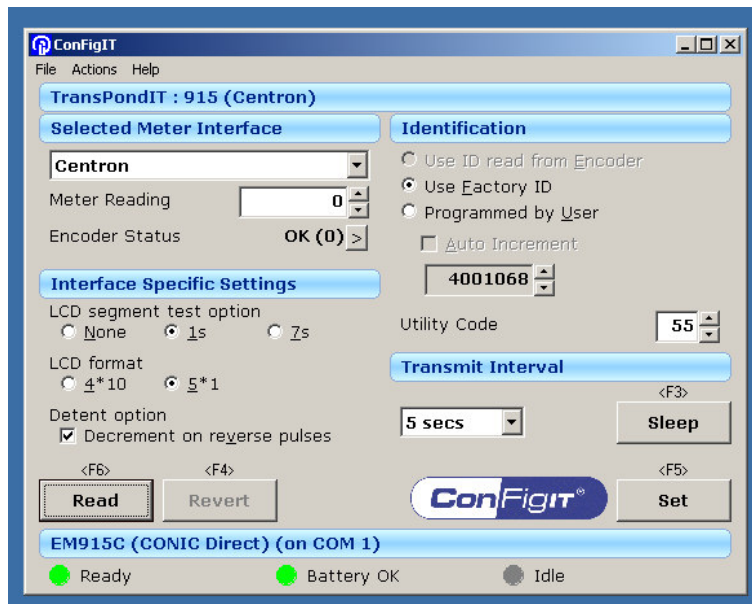

Figure 15: Configuration Screen
9. Select **Read** (or press **F6**). The 'Data Computer' LED on the ConFigIT flashes and the ConFigIT screen changes to one as shown in Figure 15. If an error message is displayed, refer to troubleshooting instructions in section 5.2.2 and Appendix B.